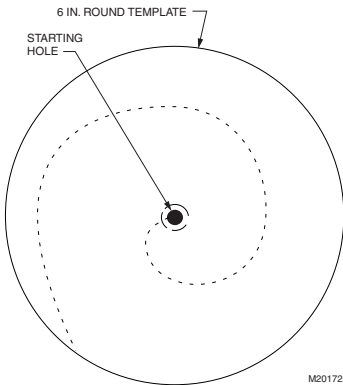

Fig. 9. Cutting bypass opening.
2. Carefully cut the 6 in. (155 mm) opening for the starter collar. See Fig. 9. Use a drill, punch or awl to start the cut in the middle of the circle. Cut in an outward spiral to assist in controlling the cut.